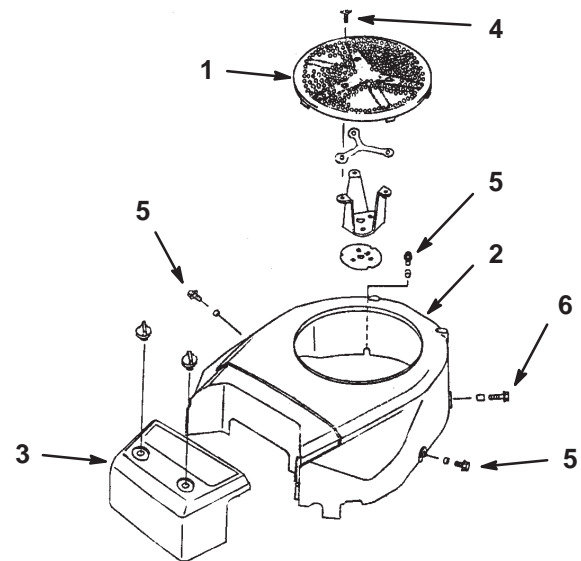

Figure 22
2. Remove air intake screen, air cleaner cover, fan housing, and bolts (Fig. 22).
4. Reinstall air intake screen, air cleaner cover, fan housing and bolts. Install bolts to 4.3 ft-lb (5.9 N•m) torque (Fig. 22).